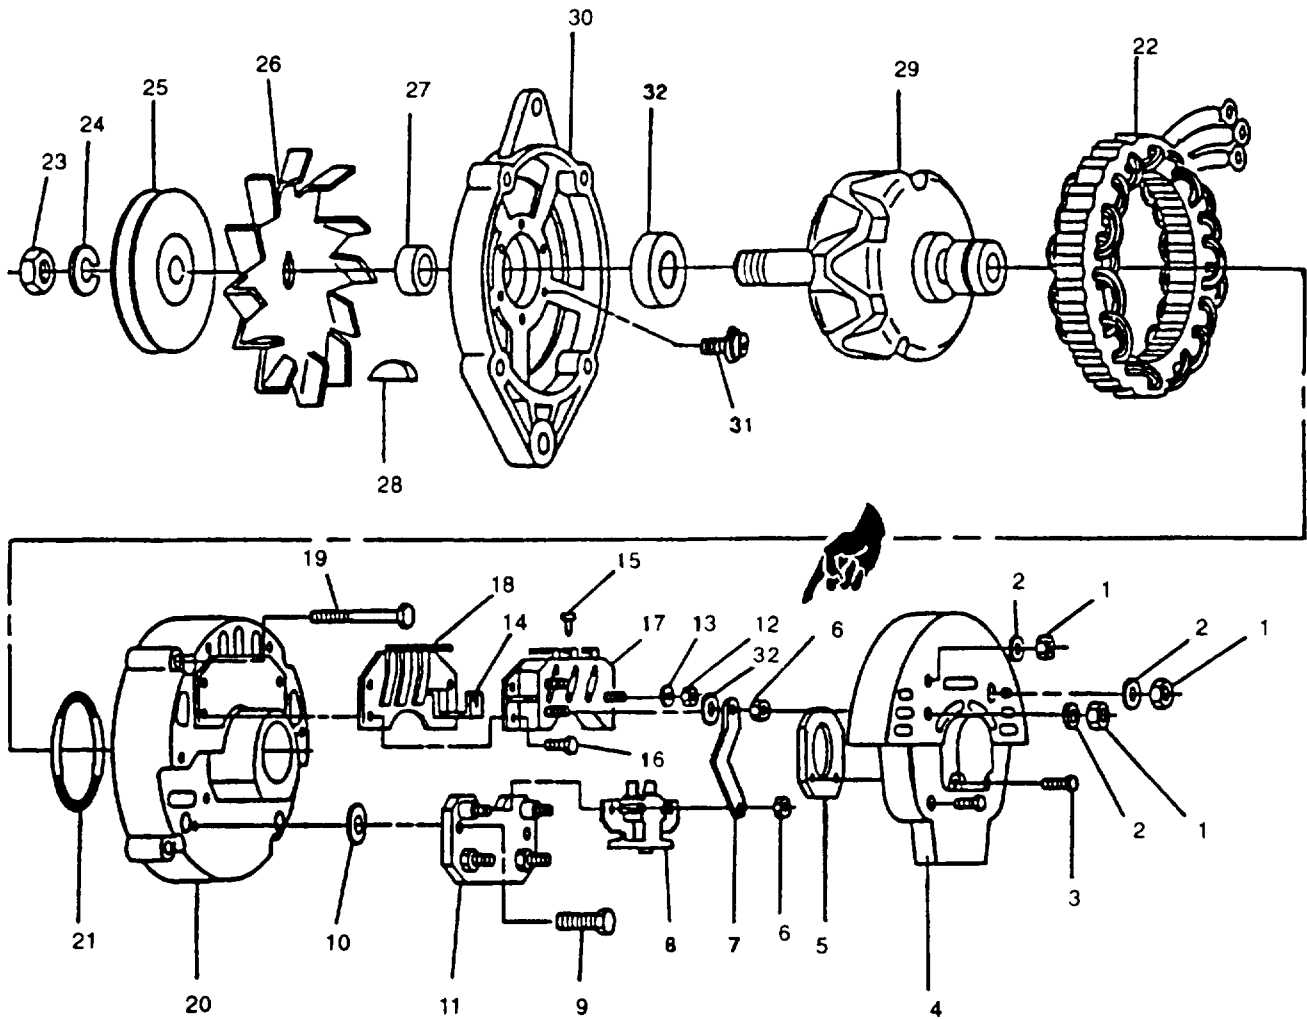

FIGURE 3-6. Battery Charging Alternator Assembly
- a. Remove terminal nuts (1, FIGURE 3-6), washers (2), bolts (3), back cover (4), and gasket (5) from rear housing (20).
- b. Remove nuts (6), strap (7), washer (32), and brush assembly (8) from voltage regulator (11).
- c. Remove bolts (9), insulating washers (10), and voltage regulator (11) from rear housing (20).
- d. Remove nut (12) and washer (13) and straighten strap (14).
- e. Remove screws (15). Tag and remove stator (22) leads from diode-trio (17).
- h. Pry units apart and remove rear housing (20, FIGURE 3-6) and stator (22) from front housing (30).
- a. Using press, install front bearing (32, FIGURE 3-6) in front housing (30).